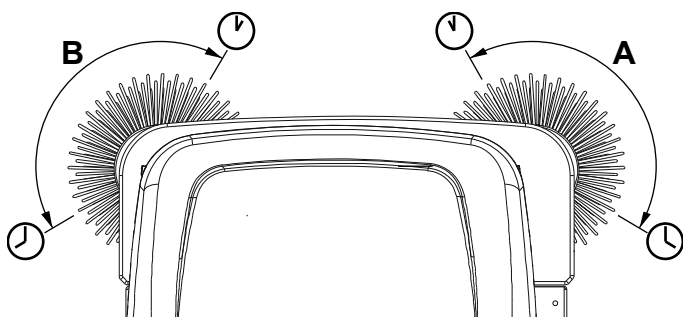

Figure 4
3. Turn the ignition key (57) and start the machine.
4. Lower the side broom with the lever (52) and let it run for 1 minute.
5. When lowered, the side brooms (9) (15, equipped on SR 1601 MAXI) should be contacting the floor as shown in the figure (A and B, Fig. 4).